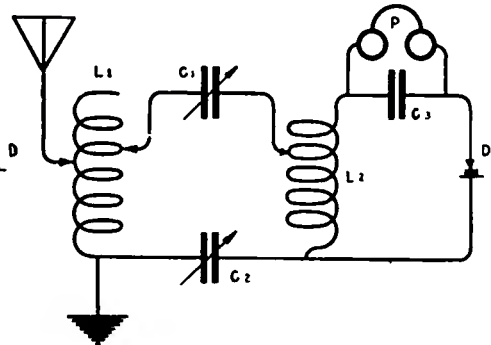

Figure 125
- (4) Figure 125. To show the circuits of an electrostatically coupled receiver.
In figure 125, the primary winding of the receiving transformer is indicated at L-1, the secondary winding at L-2 in series with which are the condensers C-1 and C-2. The detector circuit comprises the coil L-2, the condenser C-3, the telephone P, and the detector D. L-1 and L-2 are said to be electrostatically coupled through condensers C-1 and C-2.
The apparatus shown in figure 125 is said to operate as follows: Radio frequency current flowing through the coil L-1 is transferred through the coil L-2 by condensers C-1 and C-2, the coupling between coils L-1 and L-2 varying as the capacity of the condensers.